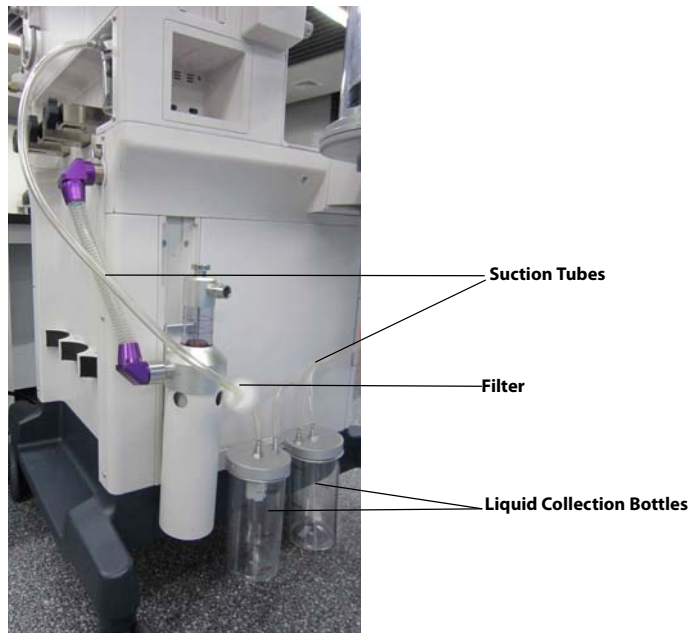

FIGURE 7-27 Removal of the suction tubes, liquid collection bottles, and filter.
1. Pull out the suction tubes, remove the liquid collection bottles and the filter. To replace the filter, dispose of the old filter following the local disposal regulations (see FIGURE 7-27).